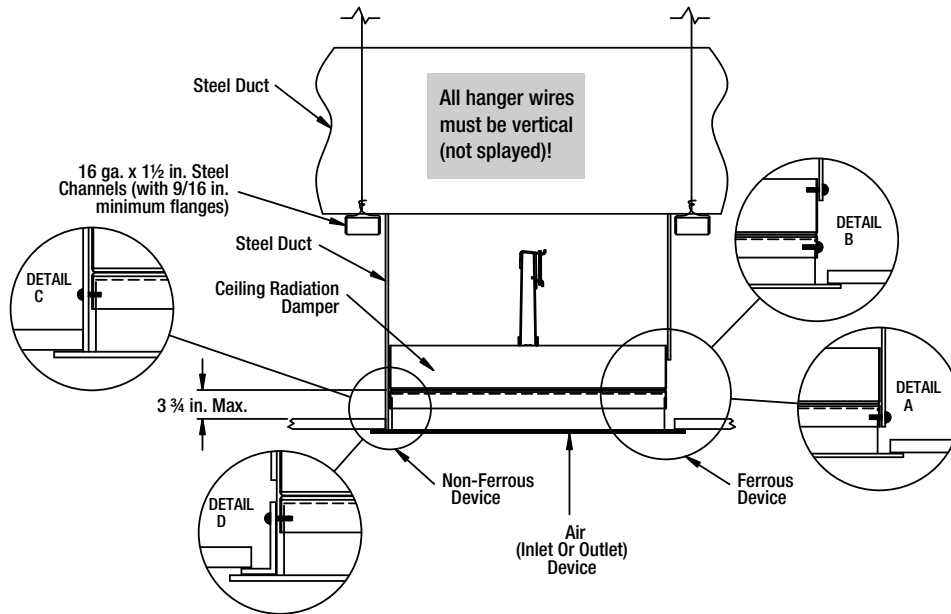

Figure 5
1. Ceiling radiation damper and air device neck may be connected directly to the duct drop (see *Detail A, Figure 5*).
2. Ceiling radiation damper may be connected directly to the air device neck and then the duct drop connected to the damper (see *Detail B, Figure 5*).
1. The steel duct drop should extend to the bottom surface of the ceiling membrane and the opening in the ceiling membrane (see *page 1, paragraph 3*) should be equal to the outside of the duct drop (see *Detail C, Figure 5*).
2. A steel angle should be attached to the bottom of the ceiling radiation damper and span the gap from the ceiling radiation damper to the bottom of the ceiling membrane. The steel angle should overlap the ceiling membrane (see *Detail D, Figure 5*).
Models CRD-1, CRD-1LP, CRD-2, and CRD-60 may be installed as shown in **Figure 5** (Model CRD-1 & CRD-1LP Illustrated).